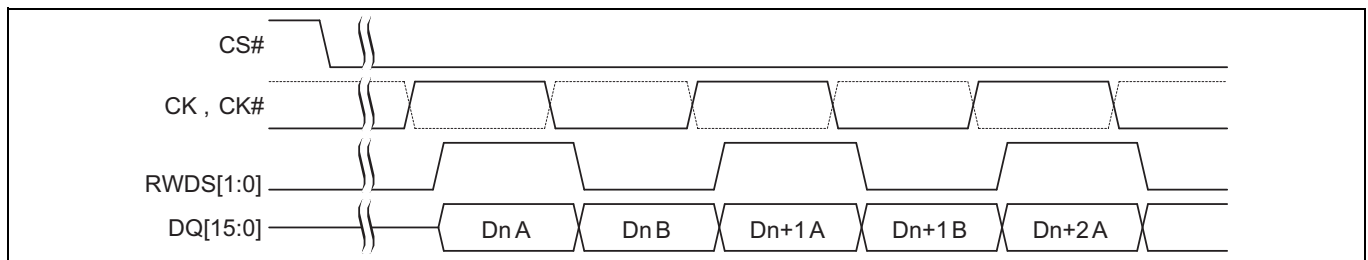

Figure 7 Data placement during a read transaction^[12-16]
12. **Figure 7** shows a portion of a read transaction on the HYPERBUS™ extended-IO. CK# of differential clock is shown as dashed line waveform.